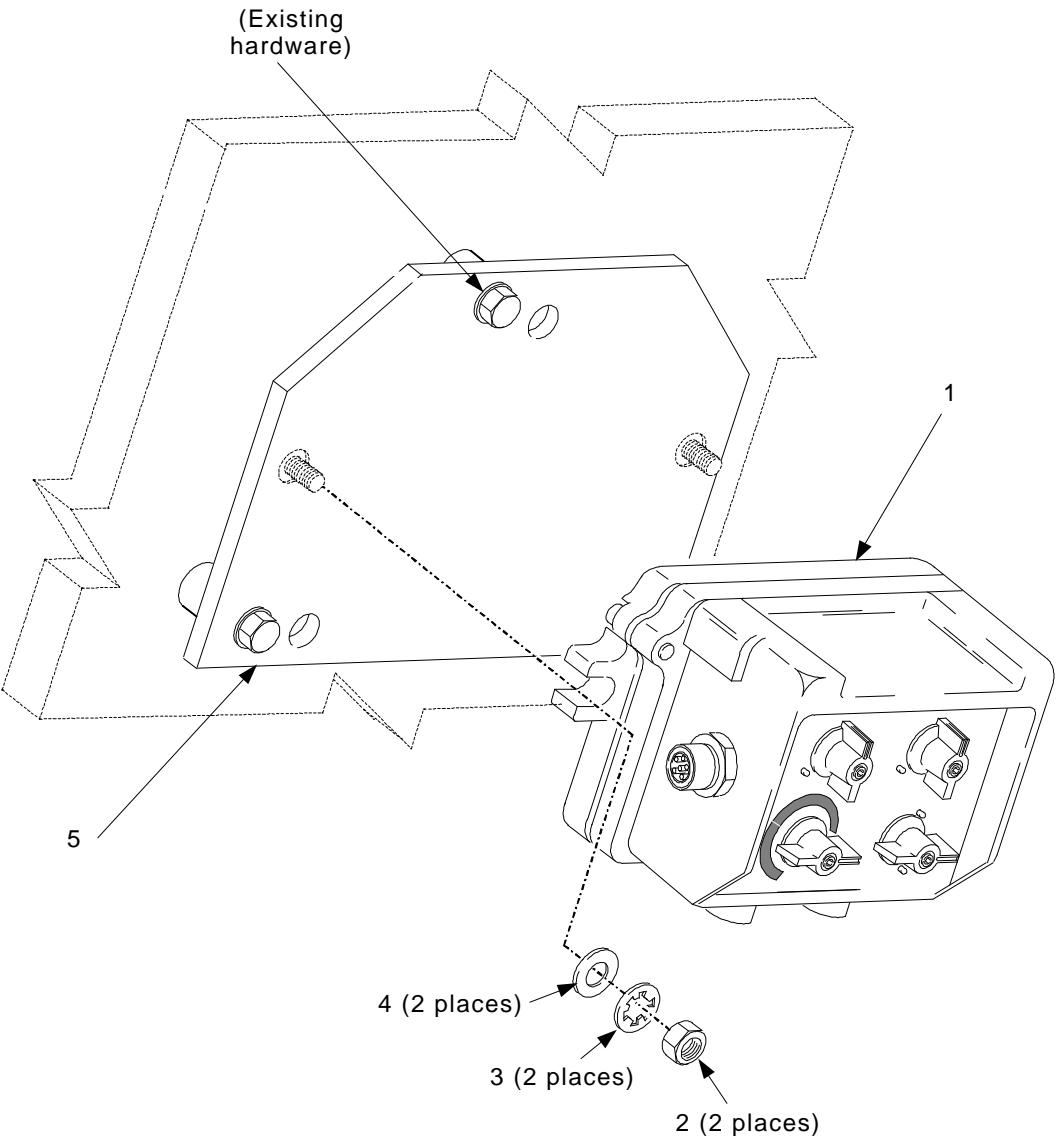

Figure 4-5. Gunner's and Commander's FFCS Installation
Install and secure the Mounting Plate (5) to the curbside wall as shown in Figure 4-5, using existing hardware and the following tools:
Install and secure FFCS (1) on the Mounting Plate (5) in the sequence(s) shown in Figure 4-5 using the parts listed in Table 4-3 and the following tools: